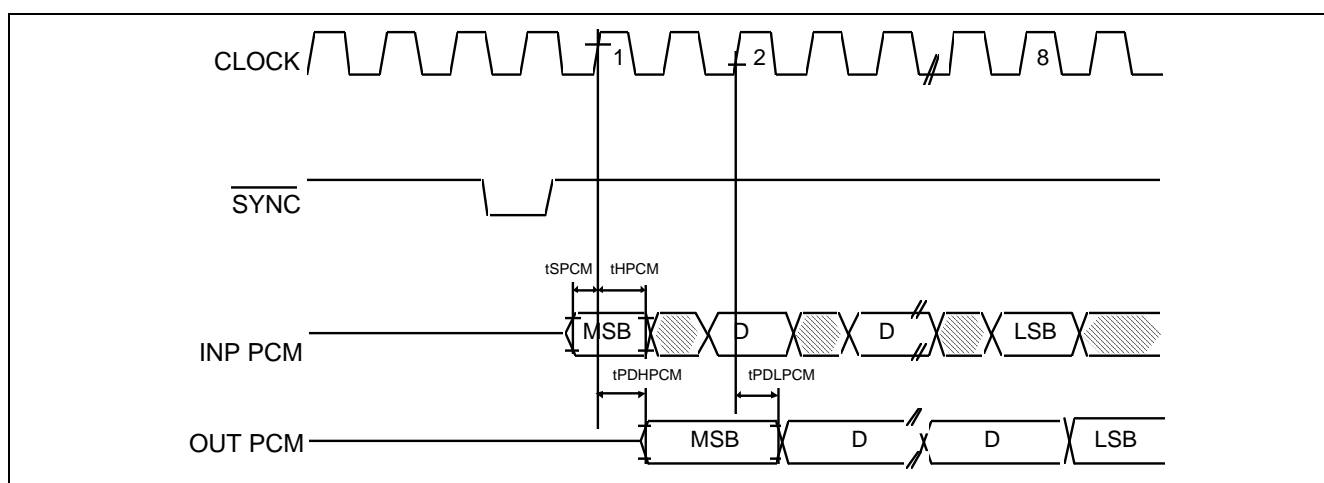

Figure 4. PCM Timing
**PCM Timing Characteristics (Figure 4):** Operation over recommended temperature and voltage range